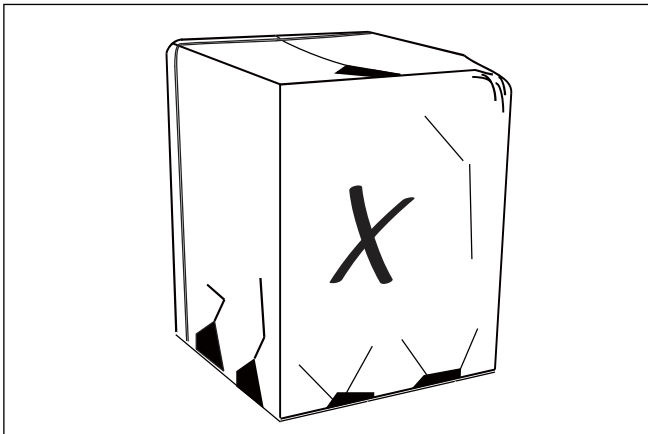

Figure 5
STEP 1 - Check for damage and report promptly to the carrier any damage found to the unit (Figure 5).